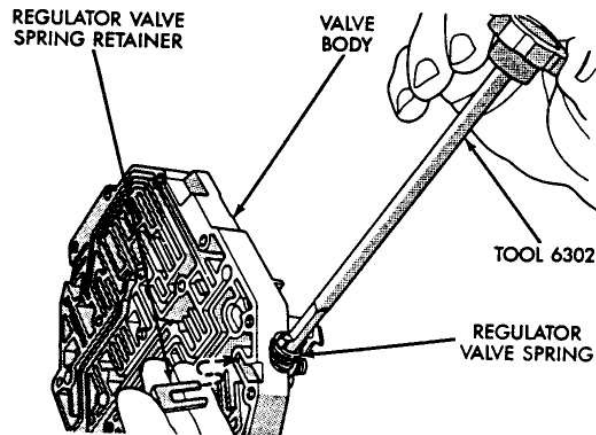

Fig. 15 Remove or Install Retainer Plate
- (9) Remove Retainer plate from valve body using special tool 6302 (Fig. 15).